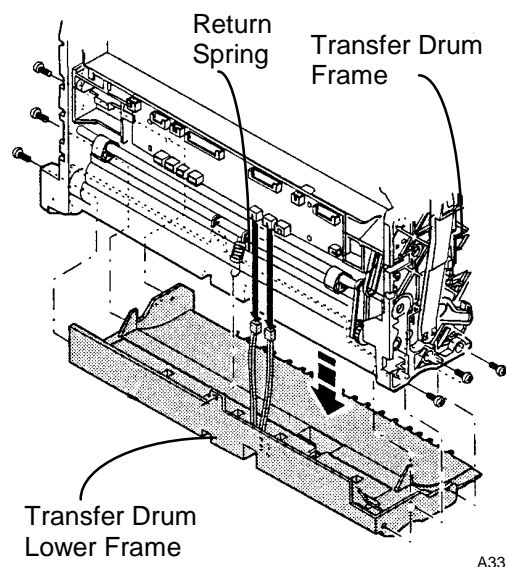

Figure 1. Removing the Transfer Drum Lower Frame
3. (Figure 1): Remove six screws.